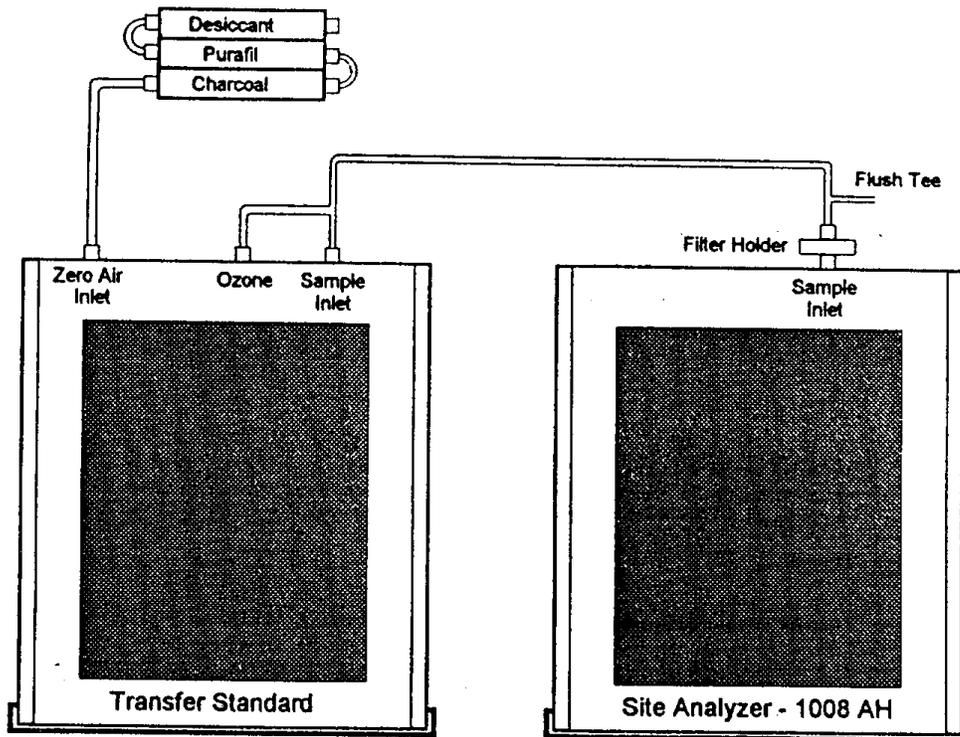

Figure 5-1. Connections for calibration of Dasibi 1008 AH.
- Connect the zero air scrubber to the zero air inlet of the transfer standard analyzer, and the ozone outputs to the transfer standard and site analyzer inputs using Teflon tubing as shown in Figure 5-1. The airflow in the zero air scrubber should flow first through the desiccant, then Purafil, then charcoal. Use a flush Tee on the ozone connection to the site analyzer, and use a Teflon particulate filter on the site analyzer inlet. Remove caps from unused ozone outlet ports on the transfer standard and from the exhaust ports on both instruments.
- While the analyzer and transfer standard are sampling zero air, record the nominal ozone concentration (0), and 10 consecutive digital display values from both analyzers. If the transfer standard is not a 1008 PC, record analyzer internal temperature with the supplied digital thermometer and pressure also. Record the DAS ozone value for one of the 10 readings.